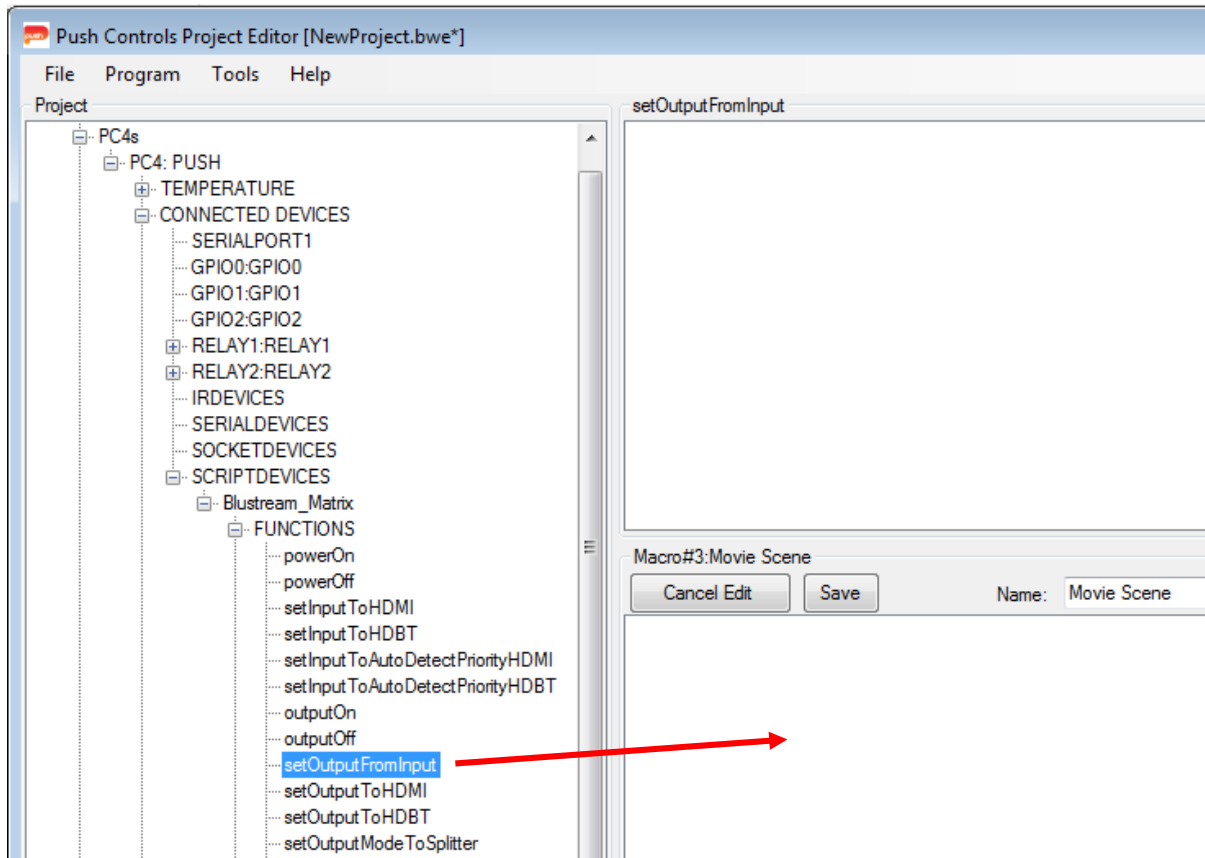

Figure 8 – Drag and Drop a new command to a macro
1. Right click on the newly created macro *Refer to Figure 8*